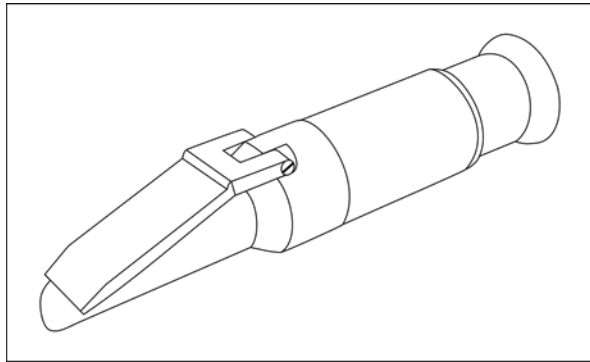

Figure 3-3 Refractometer
- C. Use a refractometer to take brix readings of the mix (Fig 3-3).